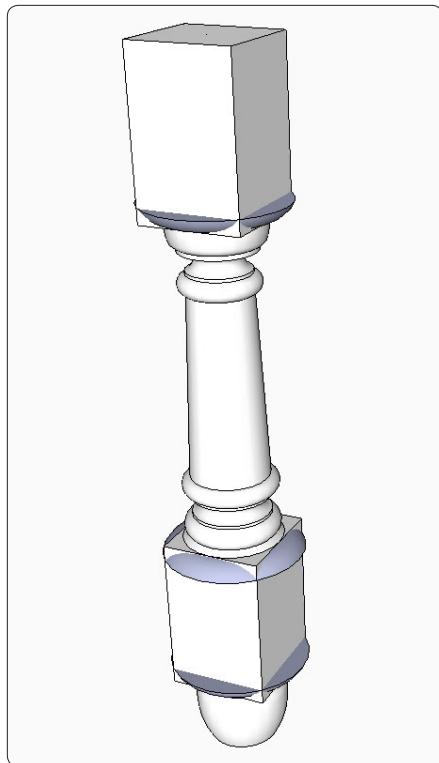

Figure 9. Move copies of the transition cutter into position at the ends of the pommels.
Step 6 Use the Move/Copy Tool to precisely position copies of the transition cutter into the appropriate locations on the leg turning, as shown in Figure 9. Flip the middle cutter along the blue axis to orient it properly.